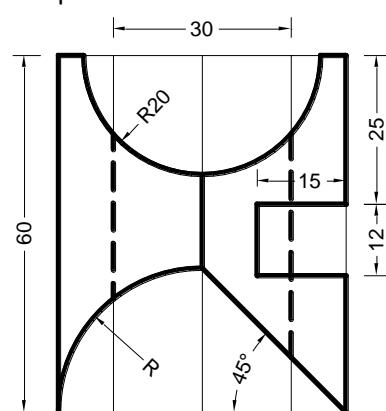

Fig.4
52. Part P of a pentagonal prism is shown in Fig.4. Draw its development of surfaces